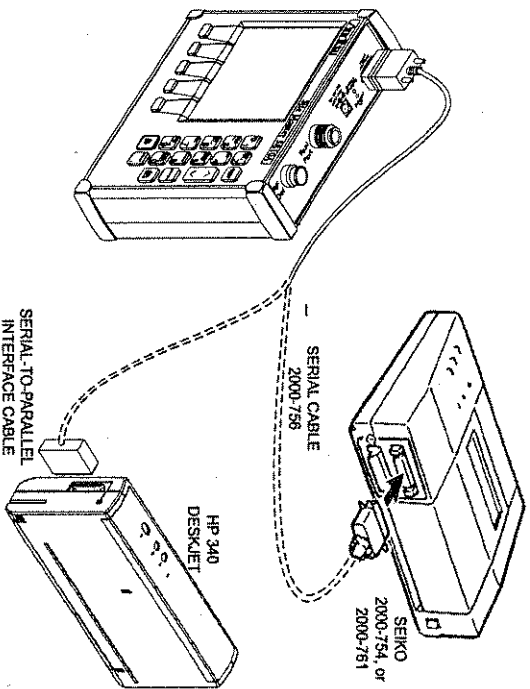

Figure 2-11. Printer Setup
Printing is accomplished with either of two printers: the Seiko DPU-411 thermal printer or the Hewlett Packard DeskJet 340 ink jet printer. Figure 2-11 shows a setup diagram for these two printers.
- Step 1. Connect the printer as shown in Figure 2-11.